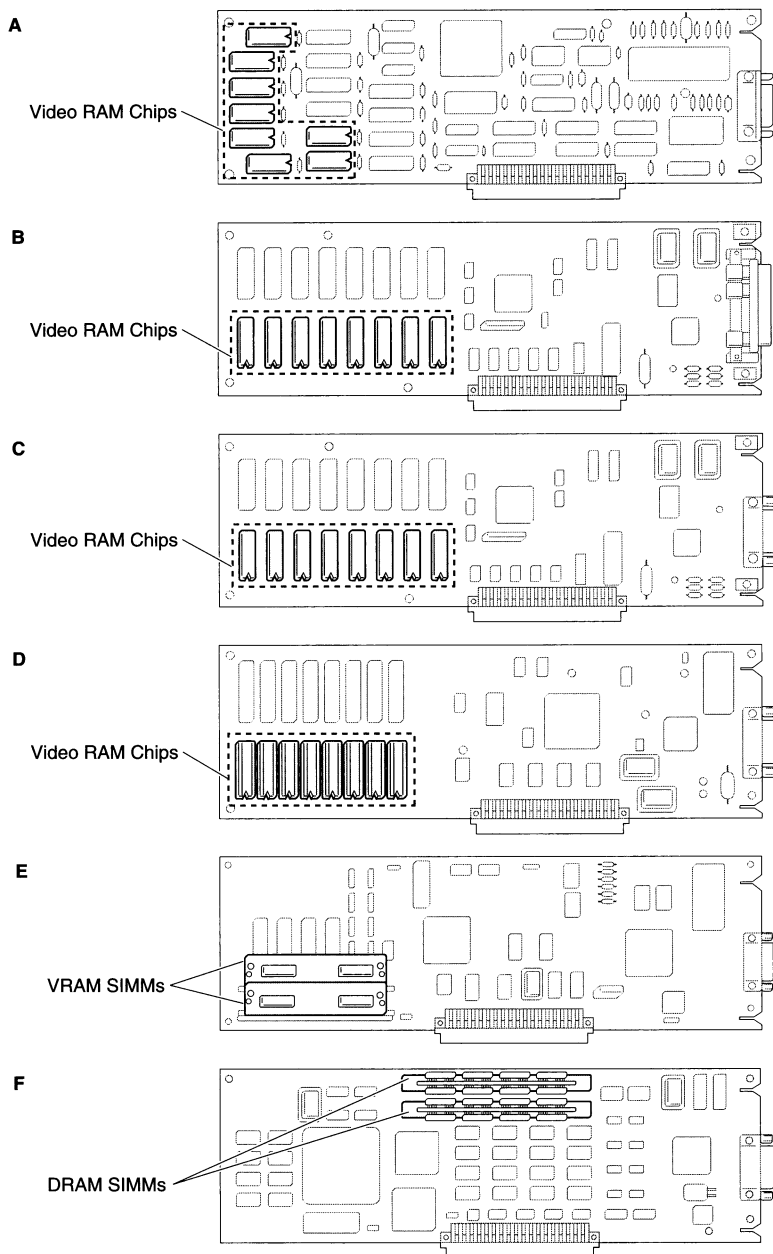

Figure 3 Macintosh II Video Card Upgrades
1. FIGURE 3. Install the video RAM chips/SIMMs in the designated location.